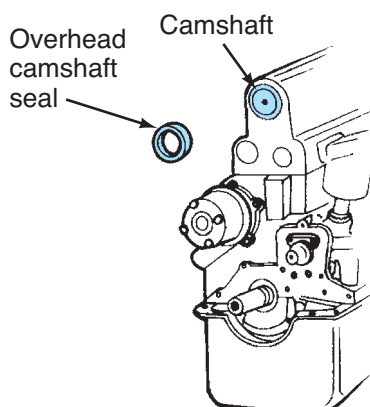

FIGURE 9.83 Replace the seal behind the cam sprocket on an OHC engine during a timing belt replacement.
- An OHC head with a timing belt has a camshaft oil seal (**Figure 9.83**), and some have an O-ring behind the cam sprocket. To avoid a future oil leak, it is good insurance to replace these during routine replacement of a timing belt.